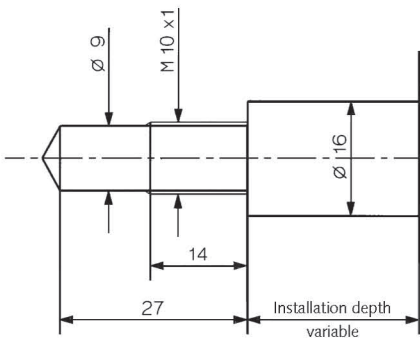

Fig. 3: Mounting hole with conical bottom
- Prepare the mounting hole as shown in Figure 3; the 9 mm \varnothing end bearing surface for the sensor must be machined clean and flat (and if necessary finished with Type 1300A21 tool and blown out with clean compressed air).